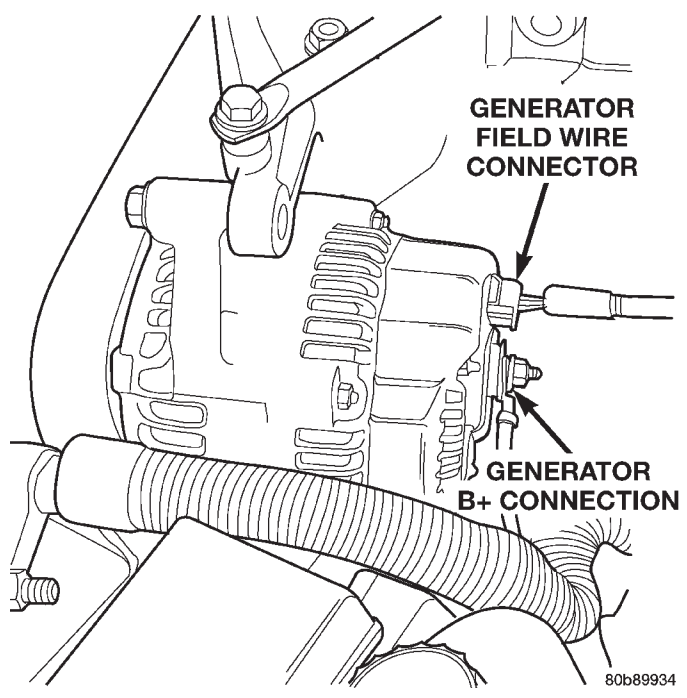

Fig. 1 Generator Terminals
- (1) Disconnect the negative battery cable.
- (2) Remove the accessory drive belt. Refer to Group 7, Cooling System for procedure.
- (3) Remove the nut securing battery output cable to B+ terminal (Fig. 1) at rear of generator.
(4) Unplug the field terminal connector (Fig. 1) at rear of generator.